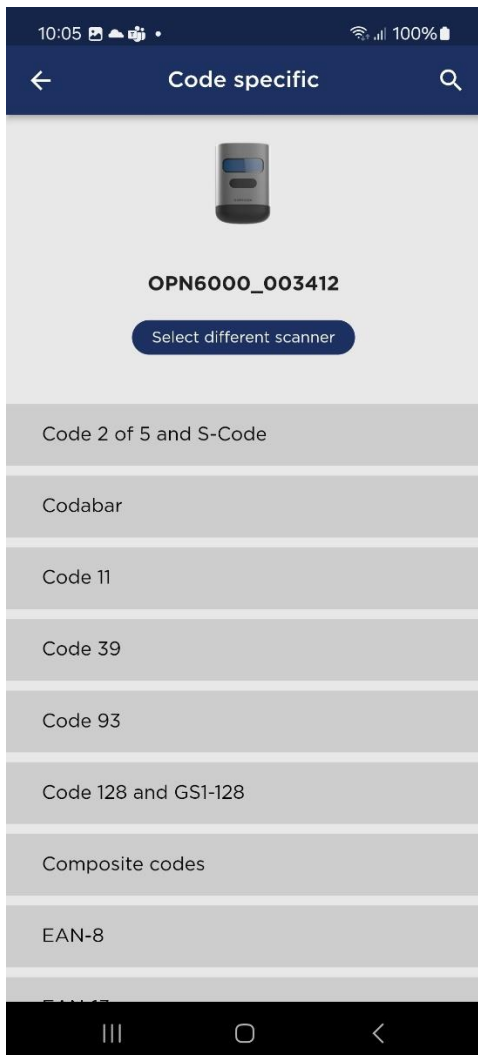

Figure 7-4: The *Code specific* page where you can configure code specific settings, such as check digit.
The *Code specific settings* allow for configuration of individual barcode symbolologies supported by the scanner. These settings enable you to fine-tune the scanner's behavior for each barcode type. The options available in this section include settings such as check digit (CD) checking and transmission, AIM Identifier (AI) transmission, enabling addons, code modes, and more (see Figure 7-4).